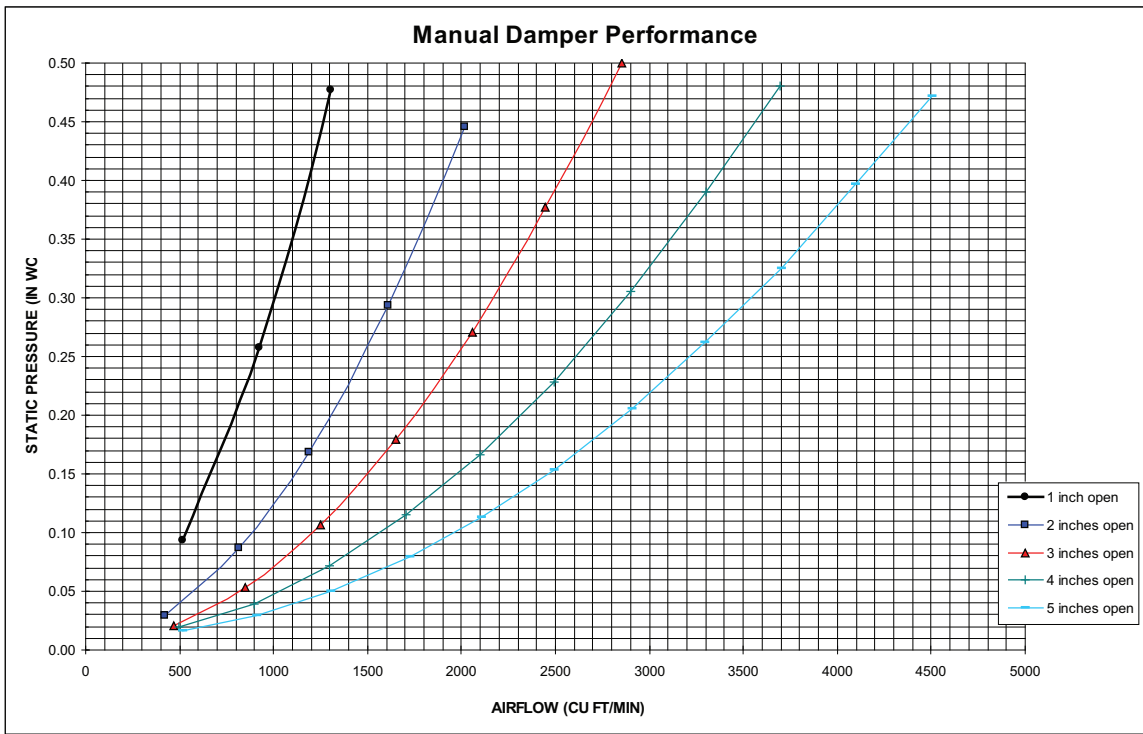

Fig. 4 - Manual Damper Performance
6. Install damper blade using (2) 5/16 screws. Position damper at desired setting based upon return pressure drop and required outdoor air. See chart for performance. (See Fig. 4.)